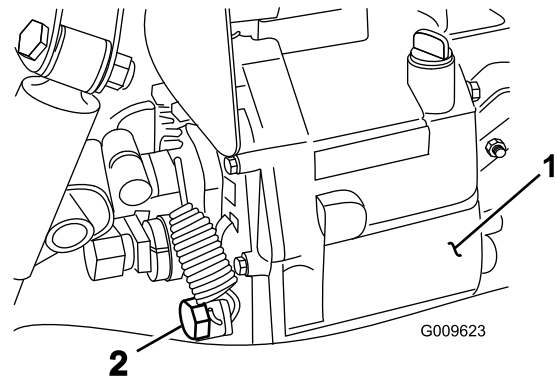

Figure 62
4. Remove the drain plug from the side of the reservoir, and let the hydraulic fluid flow into a drain pan (Figure 62).